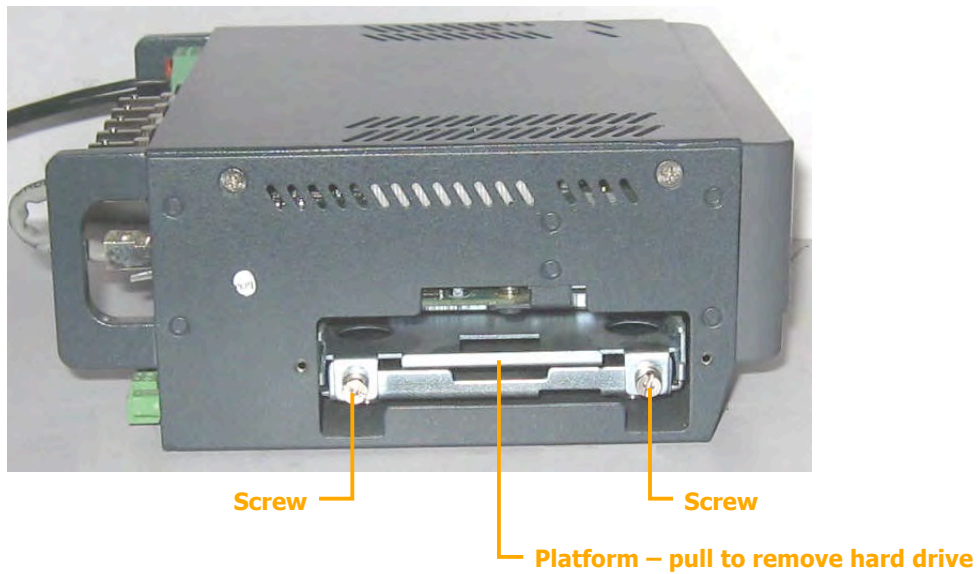

Figure 32: Hard-drive platform in open compartment
2. Tighten the screws that secure the platform in the compartment (see figure 32).